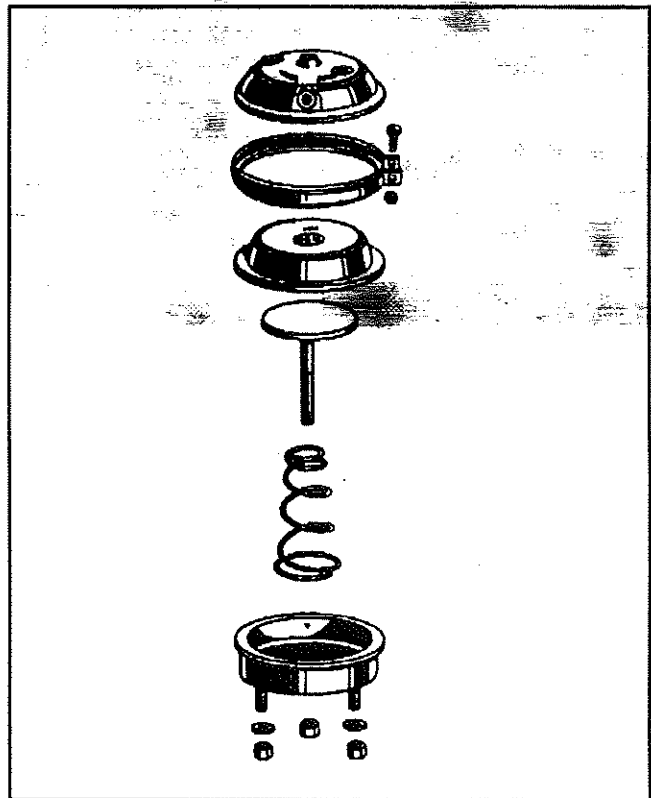

FIG. 6 - Disassembly of front axle brake chamber
2. Remove clamp ring nut and bolt (refer to fig. 6 for details).